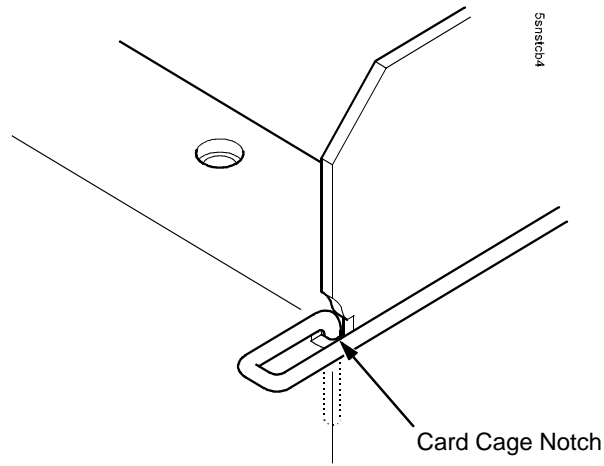

Figure 75. Locking the Cable Routing Guide Retainer Wire
13. Insert the bent end of the retainer wire into the card cage notch. (Figure 75.)